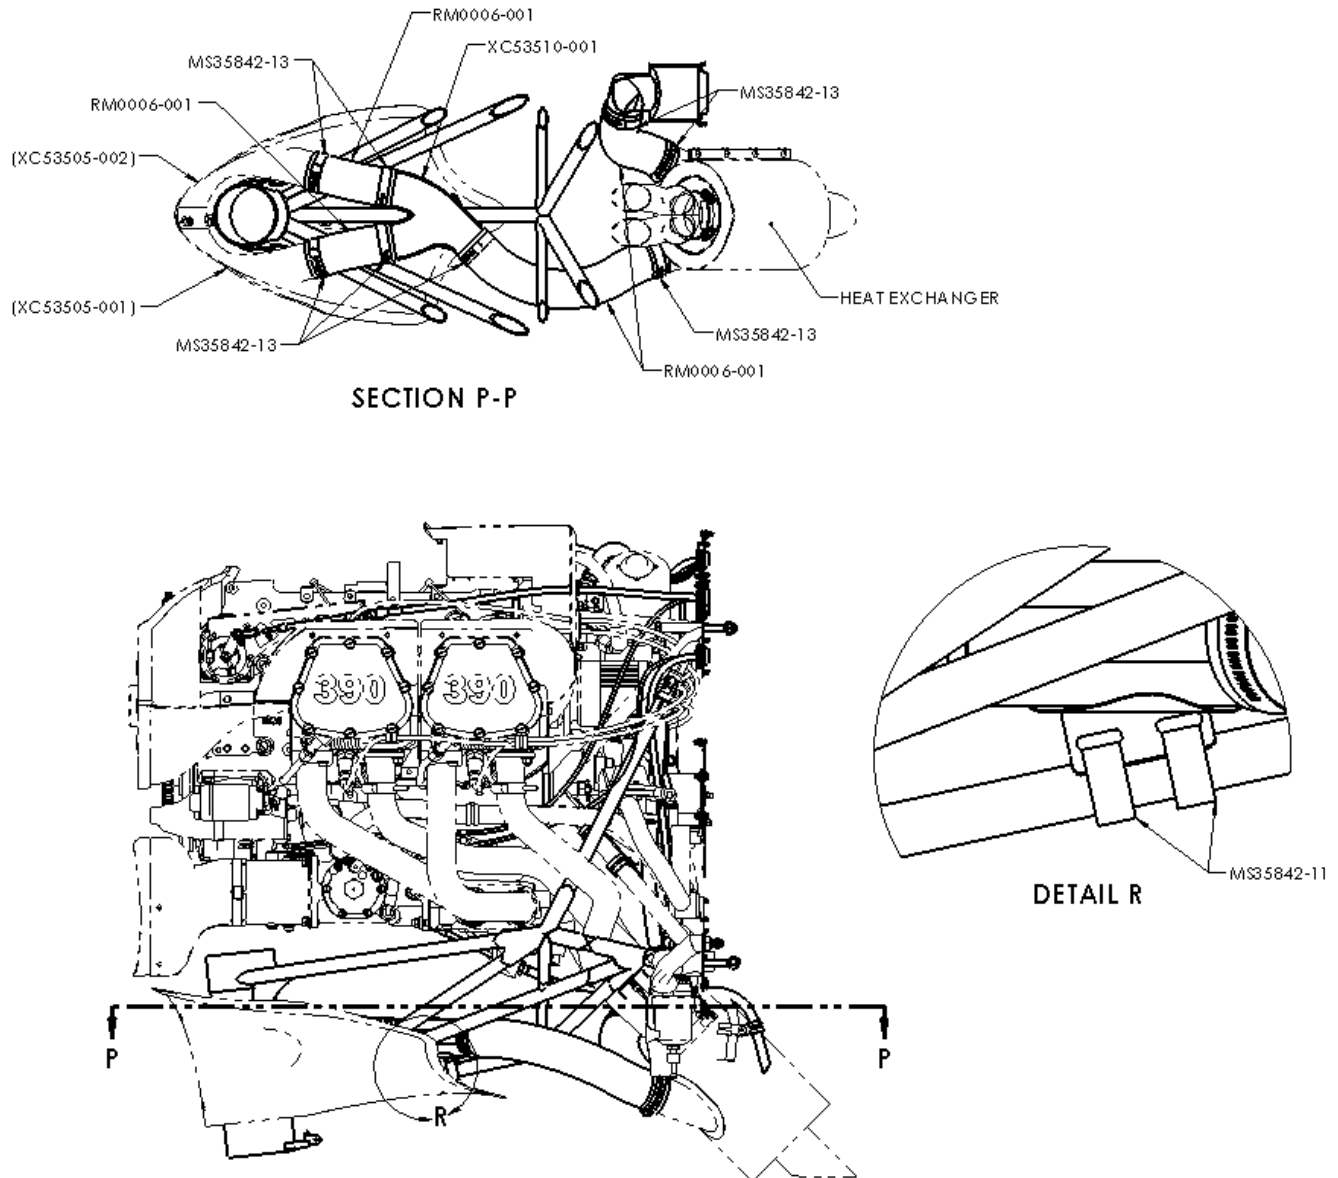

Figure 32 – Cabin Heat Ducting
44. Install ducting from cowl inlets to heat exchanger in accordance with Figure 32.